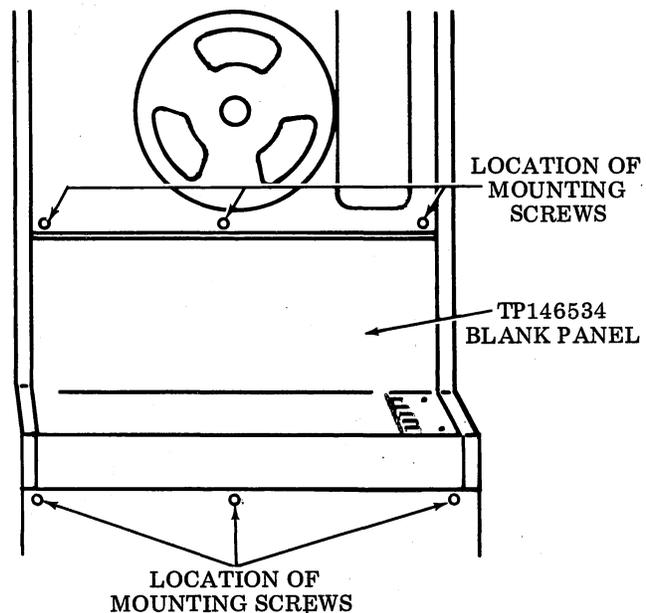

Figure 5 - TP146534 Blank Panel Mounting
3.12 Assemble all retained components (3.10) to new TP146534 blank front panel (Figure 5). Secure ground terminal to dust shield with retained screw. Position new front panel and secure with six screws retained.